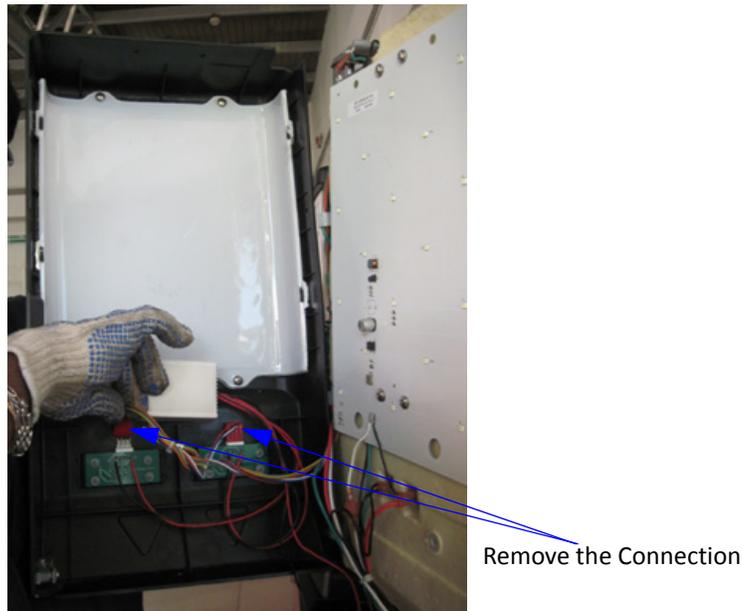

Figure 2.
- Remove the electrical connections in the Merchandiser (See the Figure 2.)